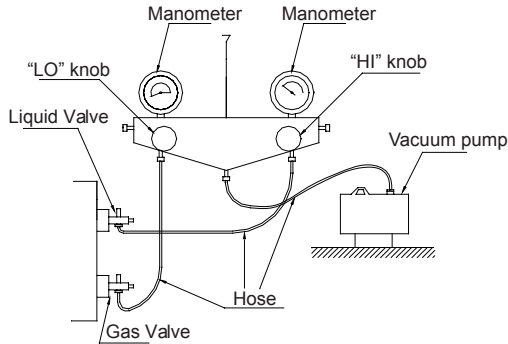

Fig.6
- 3). As shown in the following figure (Fig.6), expel the gas inside the indoor unit and refrigerant pipe out by the vacuum pump.